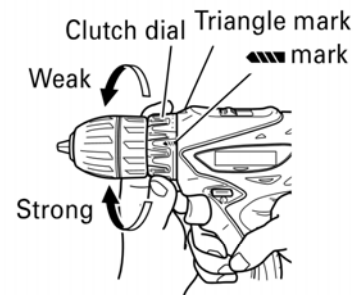

Fig. 9
6. Confirm the clutch dial position (see Fig. 9).
(2) Tightening torque indication (See Fig. 9)
(3) Adjusting the tightening torque (See Fig. 9)